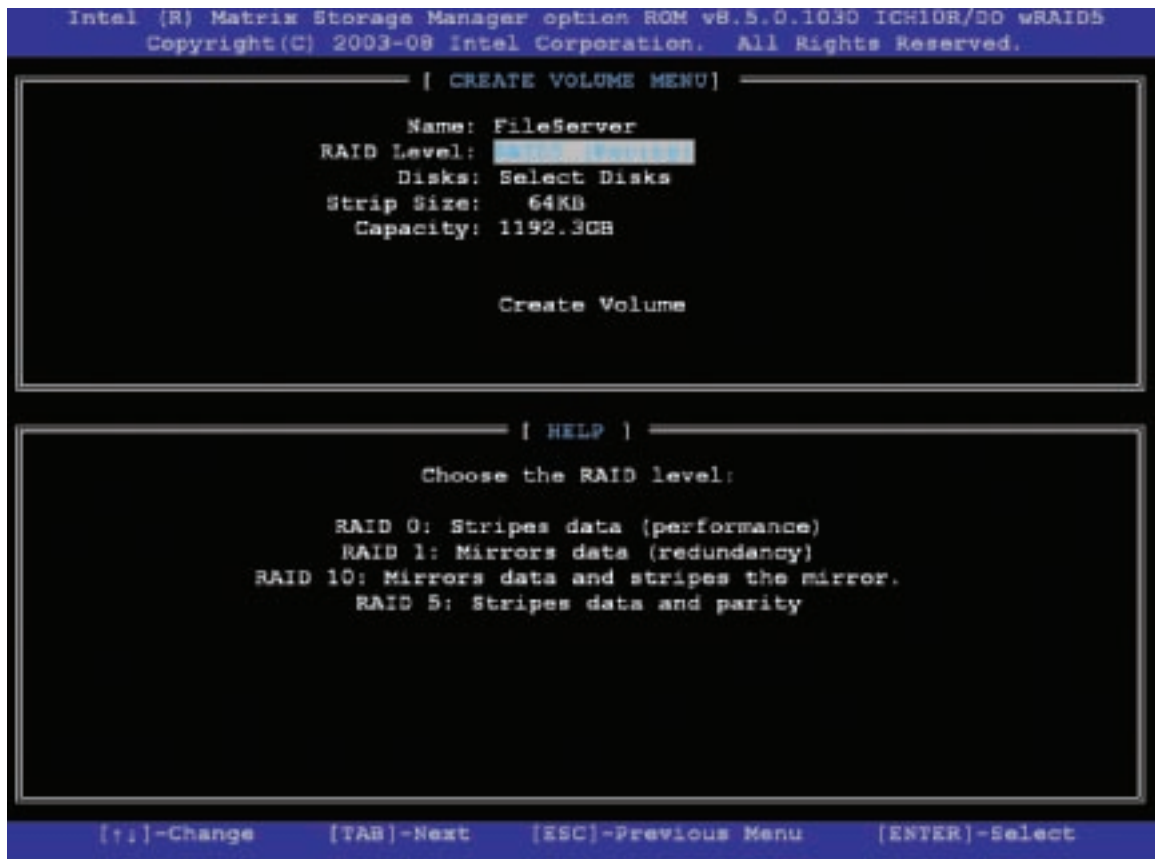

Figure 8-52 Make your choices for the RAID array
4. Select option 1 to “Create RAID Volume.” On the next screen shown in Figure 8-52, enter a volume name (FileServer in our example).
7. Enter the size of the volume. The available size is shown in Figure 8-52 as 1192 GB, but you don't have to use all the available space. The space you don't use can later be configured as another array. (In this example, I entered 500 GB.)